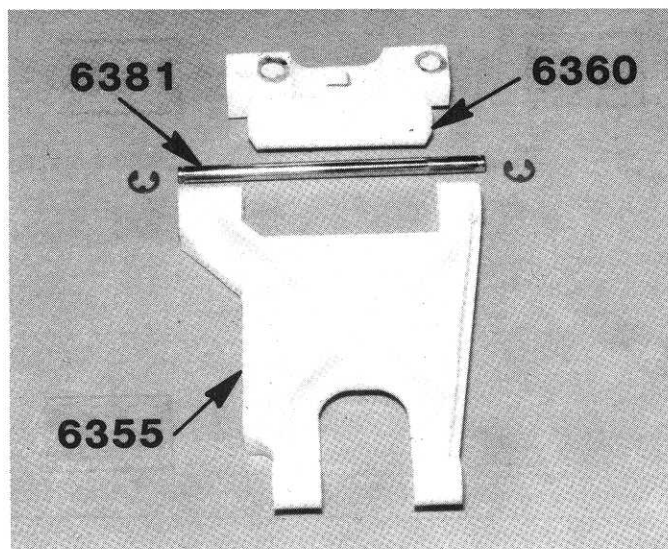

Fig. 80
□ **Figs. 80 & 81** Take the #6360 rear suspension mount, out of bag #6-8, with the letter "L" on the bottom, the #6355 L.H. rear "A" arm and the #6380 inner hinge pin. Line up the holes in the arm and mount and install the pin. Install the two "E" clips.